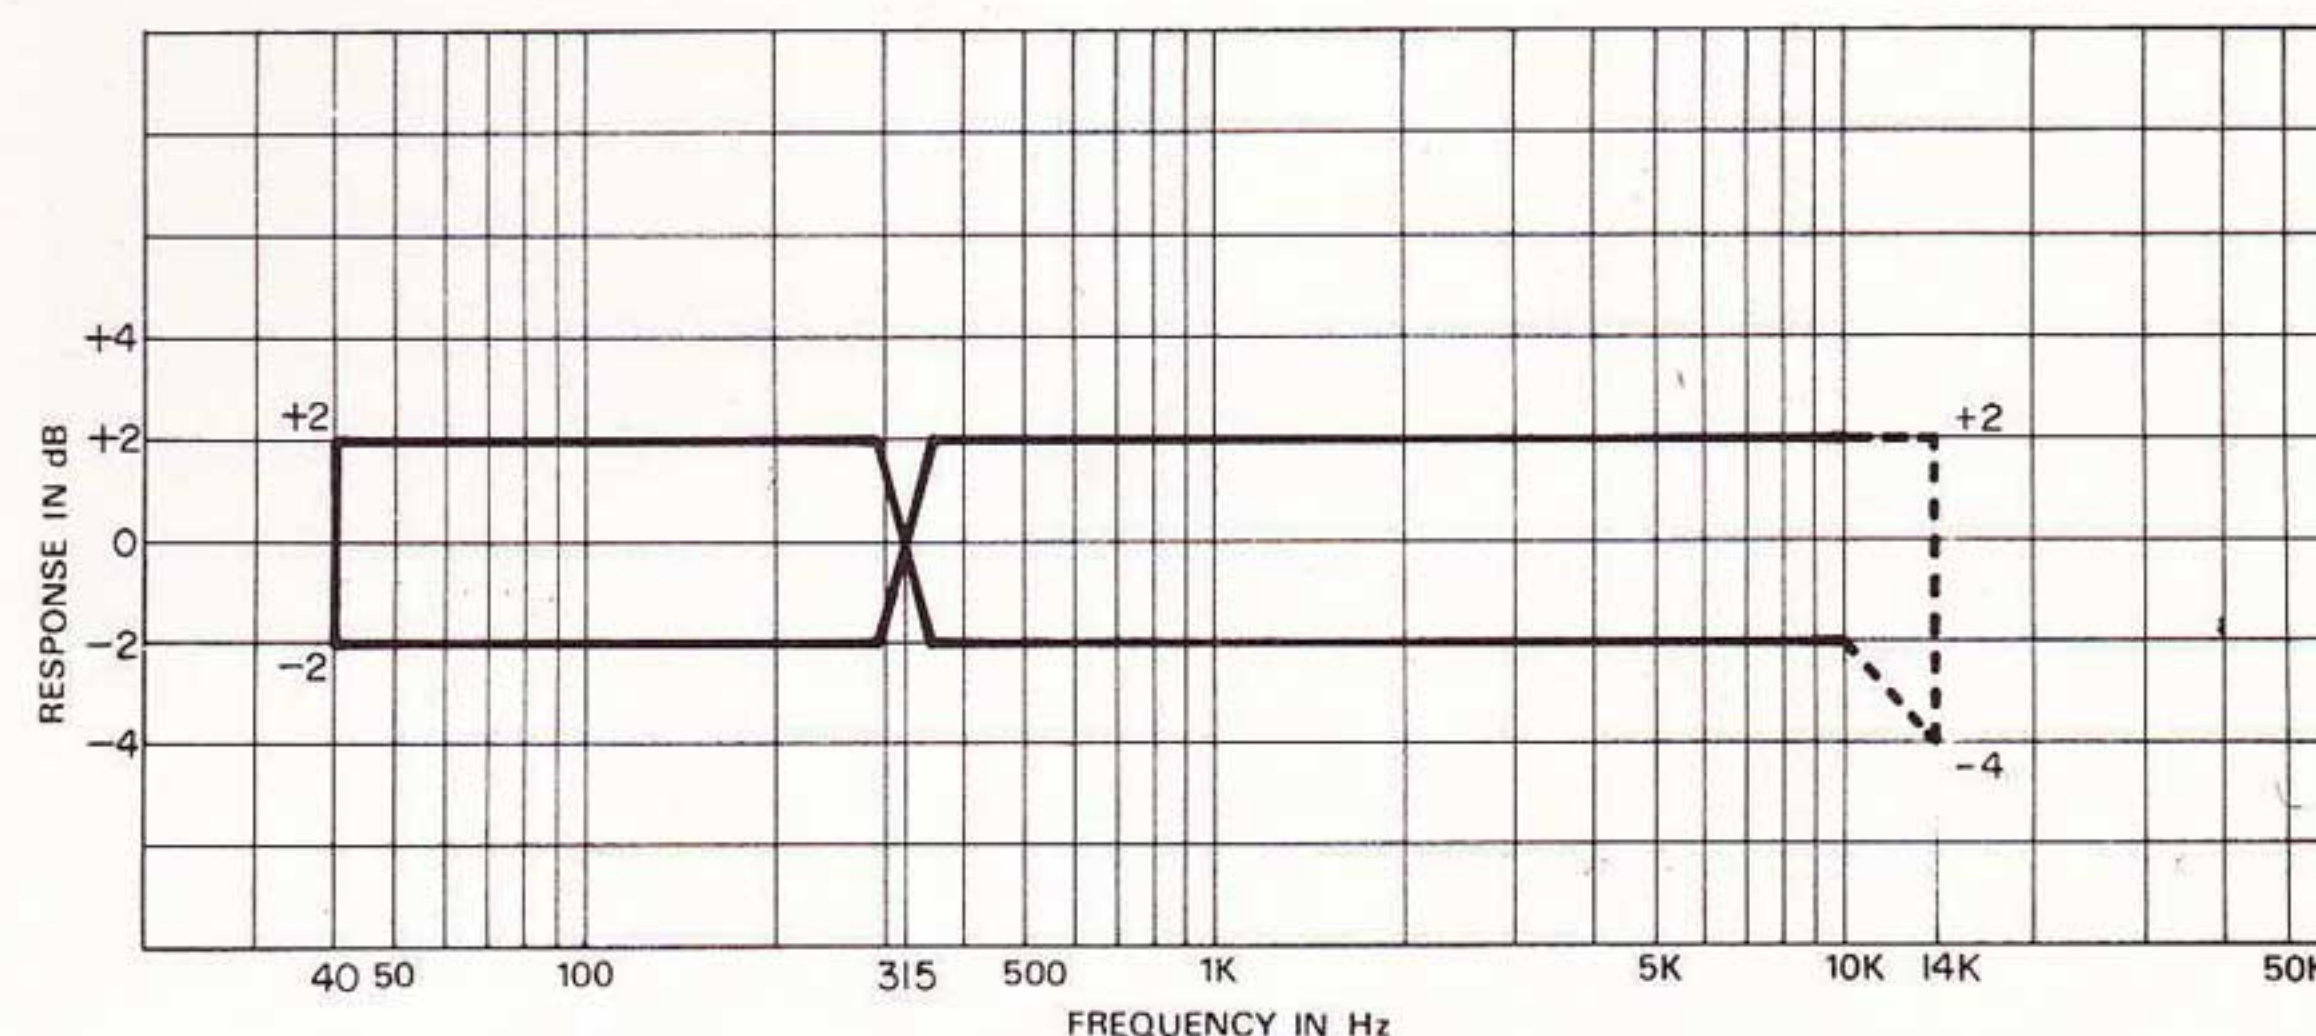

Fig. 6-3 Playback Frequency Response Limits
4. Play all of the tape signal frequencies and insure that all frequencies are within $\pm 2 \text{ dB}$ of the 315 Hz reference level. If they are not, short C135 and C235 to ground and then readjust VR101/VR201 for best frequency response. See Fig. 6-3.